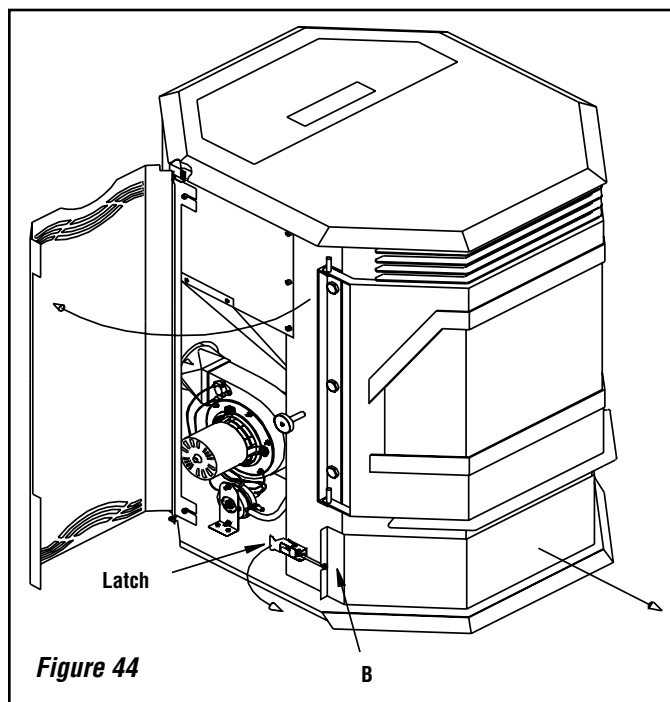
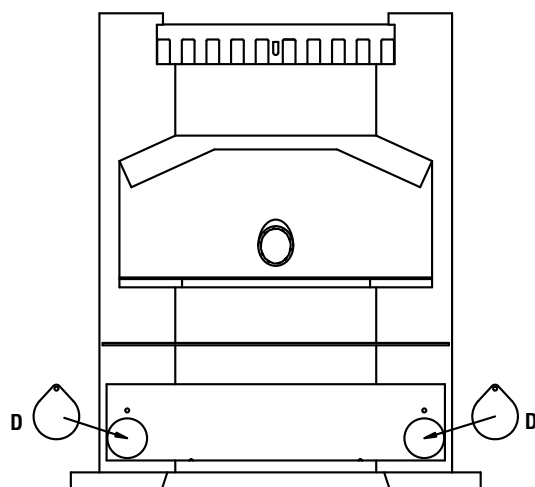

Figure 44
Figure 46A
CAUTION: Do not remove the ash drawer when the stove is hot. To remove the ash drawer, swing open the left and right side doors. Rotate the lever on latch B (see *Figure 44*) out from the stove to release the ash drawer. Do the same with the latch on the right side of the stove. Pull the ash drawer forward and away from the stove.
There are also two more access holes located behind the ash drawer. Remove the ash drawer (see previous page) and loosen the two 5/16" screws with a 1/2" socket or wrench, the screws are shown as D in **Figure 46A and 46B on Page 24**. Rotate the covers over the access holes and use a brush and vacuum to clean the ash. Rotate the covers back over the holes and tighten the screws.
6. Remove the ash drawer (see **Figures 44**) to locate the lower left and right tear drop shaped flue passageways (see D in **Figures 46A and 46B**).